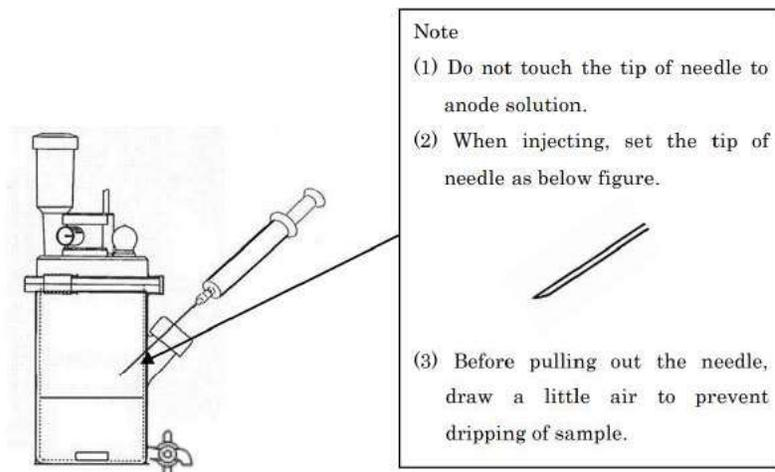

Fig.3.2. Injection of sample.
(6) Inject sample from rubber septum of electrolytic cell as shown in Fig.3.2.
(7) Start titration. Measurement parameter is shown in Table 4.1.
(8) Weigh the syringe again and then set the difference of weight to sample size.